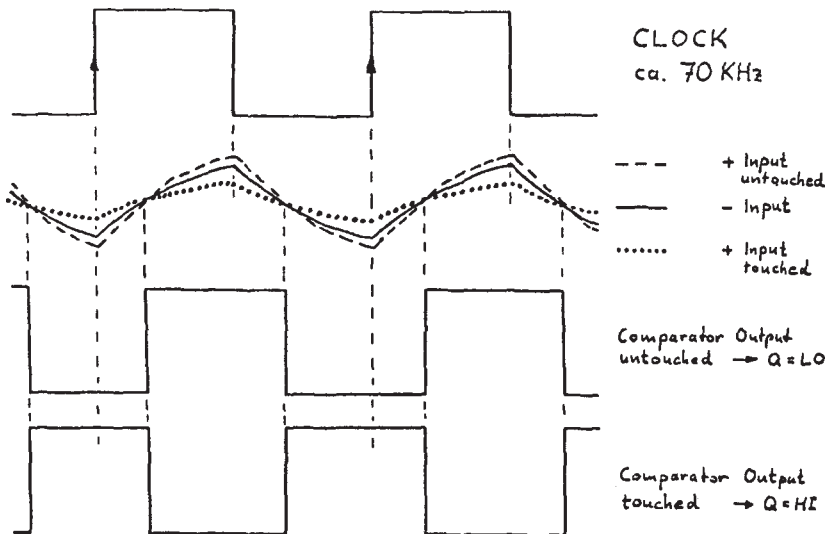

FIG.2. OPERATION OF THE TOUCH PADDLE
The circuit diagram of the VFO is shown in Fig. 2. Q1 and associated components form a Hartley oscillator which is tuned by the varicap diode D2. The trimming capacitor C1 is used for the exact setting of the tuning range. The VCO is followed by a buffer amplifier Q2 which provides an output of up to 1.5V across 50 ohms, depending on the setting of R6. Via C11 a small amount of VCO energy is fed into IC2. This device includes a doubly balanced mixer which is operated in self oscillating mode. A 14.9Mz crystal is used rather than a 13.95MHz one, as this is readily available. However, a slight increase of sideband energy must be accepted. The frequency of oscillation is shifted to about 13.985MHz by means of an RF choke in series to the crystal.
**Touch paddle:** Two pieces of single clad PCB material (about 4 sq. cms.) are glued to the centre of double clad material. The centre piece is grounded. Each touch plate therefore forms a capacitance versus ground, which is increased by touching the plate. A square wave oscillator consisting of IC 1c and associated components injects a clock signal of about 70KHz into both inputs of the comparator 1a (dots) and 1b (dashes). The clock signal is shaped by the trimming capacitors and the capacitances of the plates in connection with the 100k resistors, (low pass filters). If the trimmers are set to a value, which is slightly larger than the capacitance of the plates, the trimmers and the capacitances are charged and discharged according to Fig. 2. As a result the comparator output signal will shift in phase, when a plate is touched. The D-FF IC2 is triggered on positive transitions of the clock signal. The Q outputs therefore will be low as long as the plates are untouched, but high when the plates are touched.